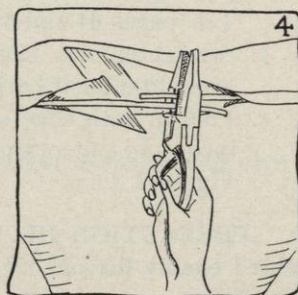

FIG. 4.
- (1) Bring both ends of the wire together on the line of the basting and hold them firmly (see Figure 4).
- (2) Lay the fabric of which the cord is made over the wire, to see where you will have to join it (see Figure 4). If there are any holes in the material where you had it pinned to the table, or if it is frayed at that end, you may cut off a little of it, but be certain that you have sufficient material to make the joining properly.
- (3) Place the part of your nippers that cuts, about $1\frac{1}{2}$ inches to one side of the bias end of the fabric, and cut through both ends of the wire at the same time (see Figure 4). This will make the ends of the wire just meet.
- (1) Such cords are often used to make trimmings, but are usually slipstitched into place, as shown in Section 4 c (page 94).
- (2) If necessary to join the cord, follow these directions:
- Remember the cord must not be joined directly under the joining of the outer fabric** (see Figure 4, page 94).